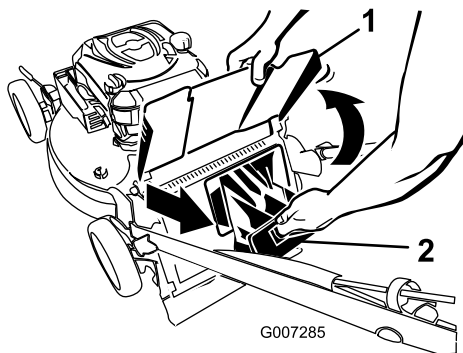

Figure 21
2. Raise and hold up the rear-discharge deflector (Figure 21).
3. Pull out the rear-discharge plug (Figure 21).